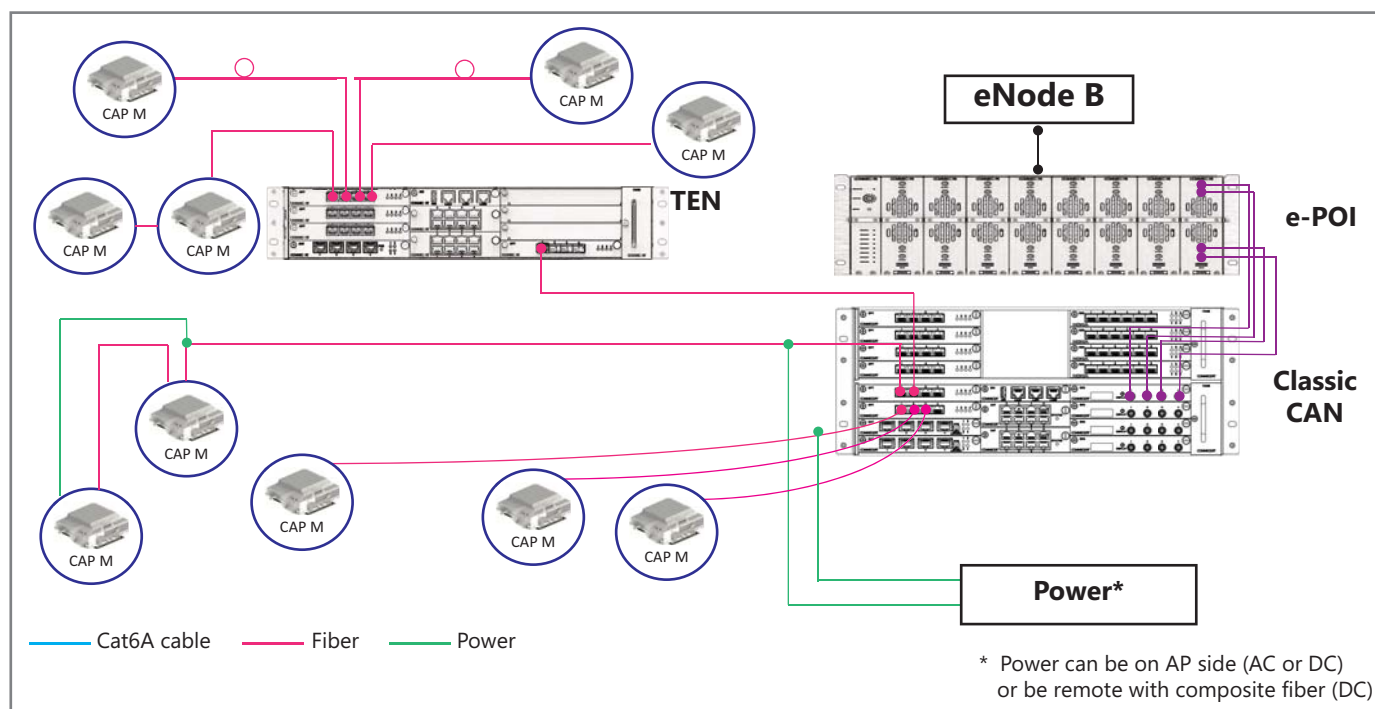

Figure 1. CAP M in an Era System using a Classic CAN
- updates Figure 1 on page 5, which shows an Era system in which the CAP Ms connect to a Classic CAN
On the downlink, the CAP M converts data arriving at the CAP M to analog signals and sends them to the Antenna port. On the uplink, received signals are digitized and serialized into data streams, which are sent back to the Classic CAN or TEN. Each CAP M can provide RF coverage for up to four specific frequency bands. Figure 1 shows how a CAP M can be deployed in an Era system.